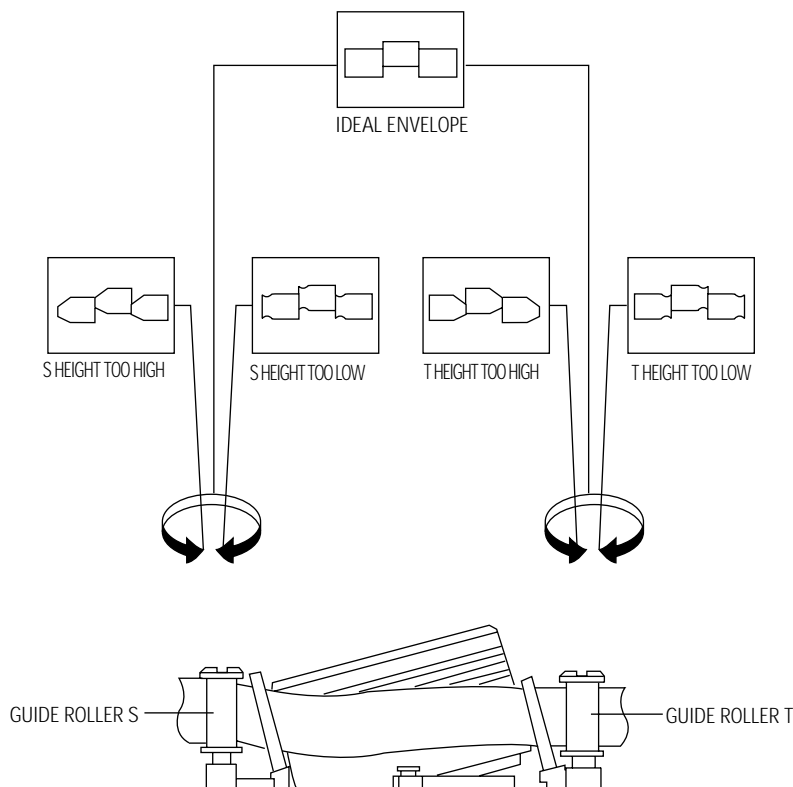

Fig. 5-11 Guide Roller S, T Height Adjustment
- 8) Turn the guide roller heads with a flat head ( ) driver to obtain a flat video RF envelope as shown in Fig. 5-11.